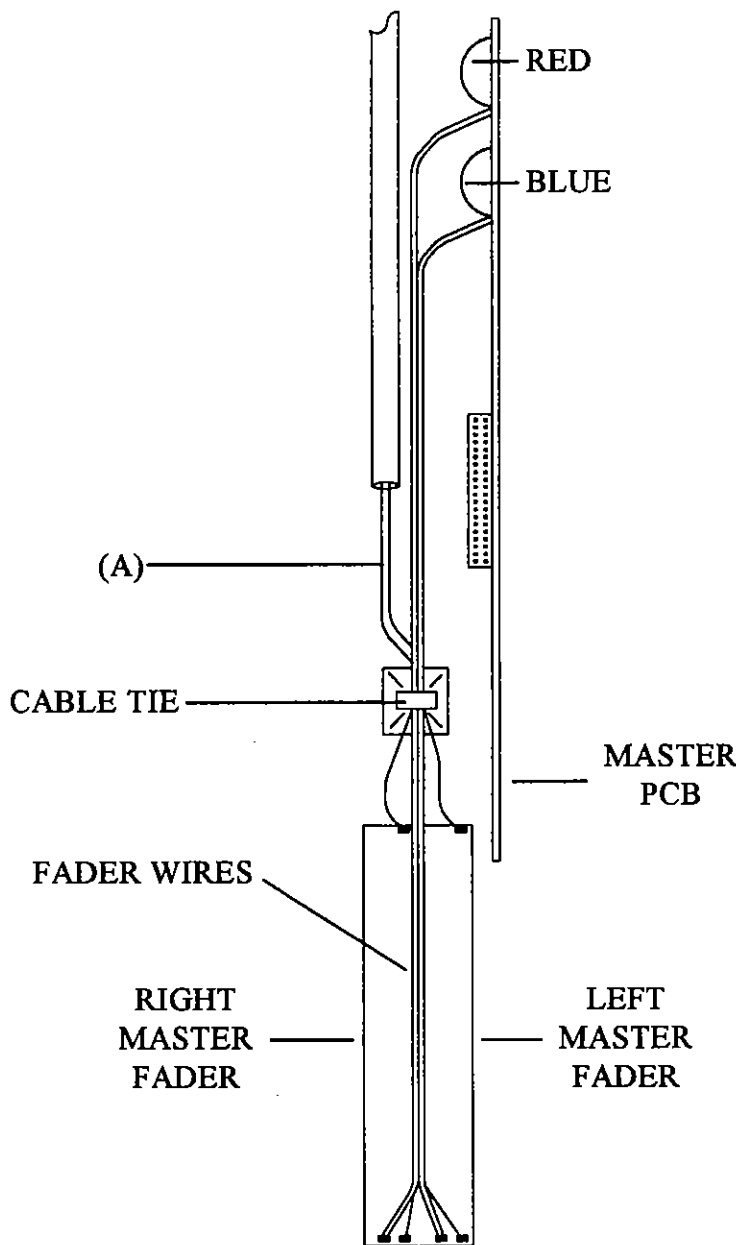

Fig. 4.
4. Locate the right & left Master fader wires running from the master faders to the Master PCB (PCB No: AG0310), see Fig. 4. De-solder the screened red and blue wires from the faders and the PCB. Clean up the holes in the Master PCB using suitable solder braid or a solder sucker. Cut the cable tie that holds the wires to the front panel and remove the screened wires. Then unsolder the red and blue wires (A) that connect to the top of the right & left Master faders. Do not remove them as they will be required at a later stage.